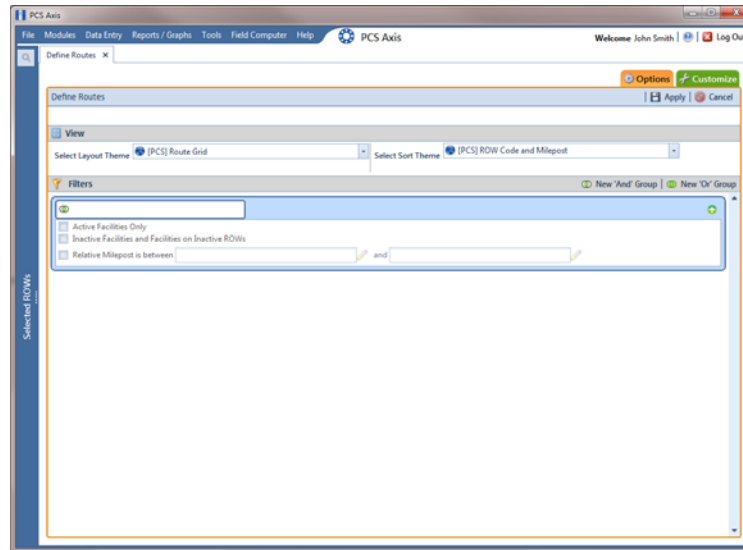

Figure 8-2. Options
- 4 Click the **Options** tab  to open the options page (Figure 8-2).
- 5 Choose a layout and sort theme. Click the down arrow in the field **Select Layout Theme** and select a layout theme. Then click the down arrow in the field **Select Sort Theme** and select a sort theme (Figure 8-2).